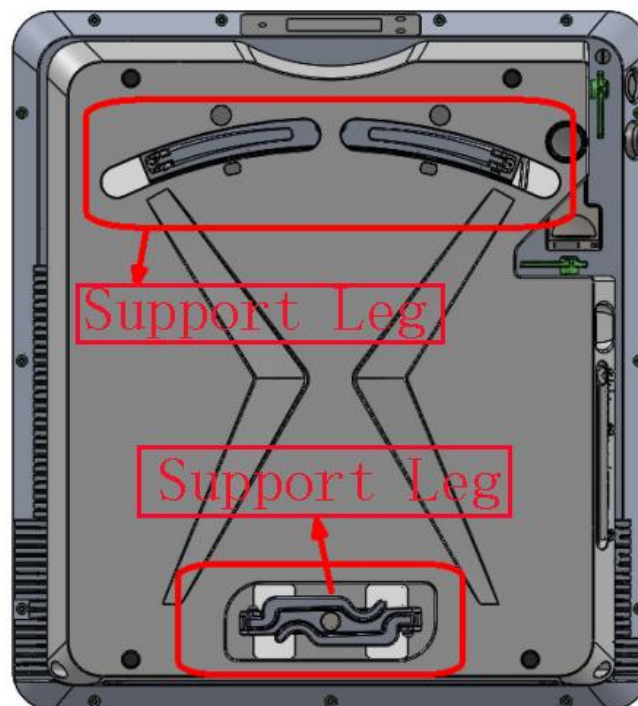

Figure 8-2-8 Support Leg
8. Stow each support leg into the supporting leg groove, as shown in Figure 8-2-8.